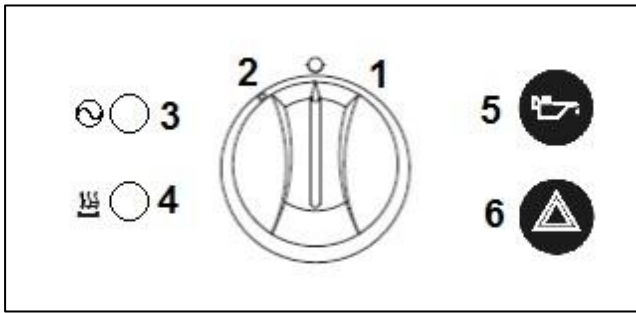

Figure 3 – E3840X & E3840FX Control panel
2.3.2 E3840X & E3840FX Fryer Control Panel (See Figure 3)